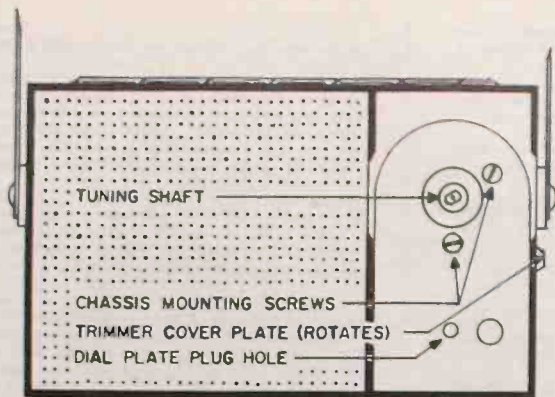

FIG. 1—FRONT VIEW—DIAL PLATE REMOVED
3. Lift out the dial calibration plate, exposing two countersunk slotted head screws adjacent to the tuning shaft. Remove these two screws (see Fig. 1).
7. Remove speaker from chassis by unscrewing two slotted head screws in back of the speaker magnet (See Fig. 1). This eliminates the speaker ground, so a clip lead should be connected from speaker frame to the metal battery compartment.
CAUTION DO NOT ATTEMPT TO PRY OFF THE TRIMMER COVER PLATE (SEE FIG. 1). THIS PLATE ROTATES TO EXPOSE TWO ACCESS HOLES IN THE END OF THE CASE. FRONT HOLE TO OSCILLATOR TRIMMER C2A, REAR HOLE TO RF TRIMMER C1A.